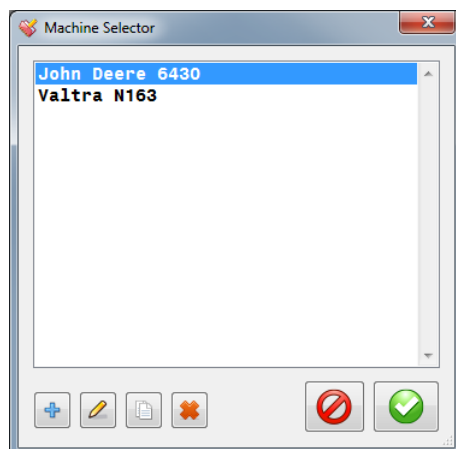

Figure 6 Machine Selector
8. Go to Settings > Machine Selector to add or remove a Machine and switch between the existing tractor implement profiles (Figure 6). Added or removed machines will be added or removed automatically in the Loader screen as well.